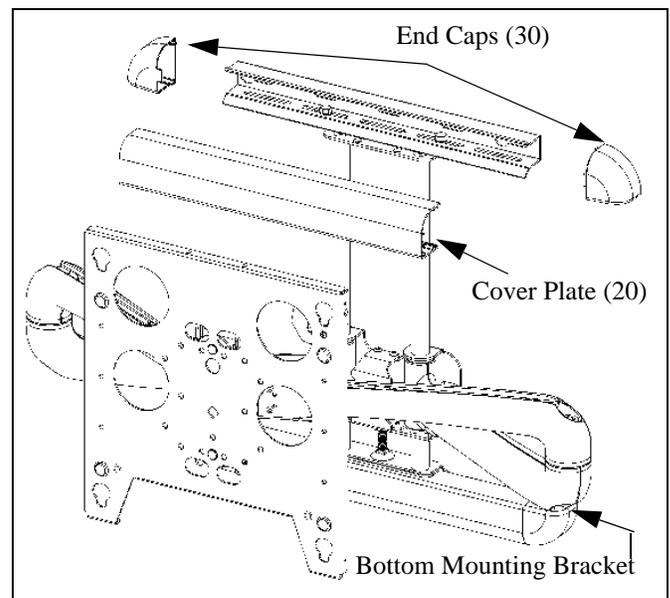

Figure 5: Install Cover Plates and End Caps
1. Install cover plate (20) over the top bracket. See Figure 5.
2. Install end cap (30) on the cover plate (20).